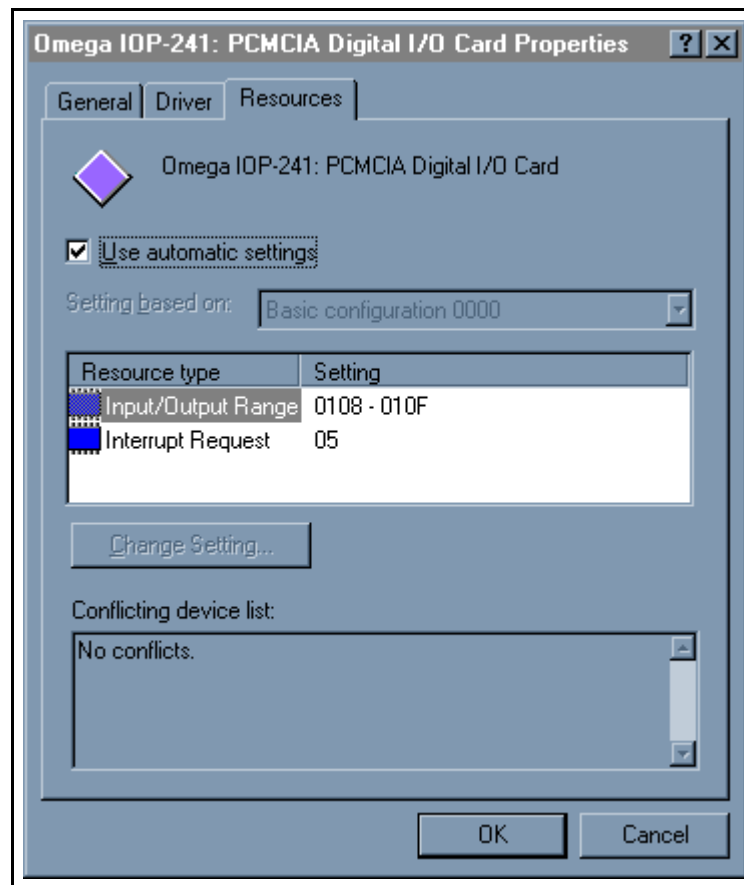

Figure 3-1. Windows 95/98 Resource Settings
3. Open the **Properties** dialog box for the IOP-241, then click the **Resources** tab to view the Input/Output Range and Interrupt Request resource allocations, (see Figure 3-1).
If any changes have been made to the IOP-241 configuration, the card will automatically be reconfigured to the new resources specified. Any time a PCMCIA card of this type is inserted, Windows 95/98 will attempt to configure the card at these resource settings. Click the **Use Automatic Settings** box to reset this card type for automatic configuration, (see Figure 3-1).